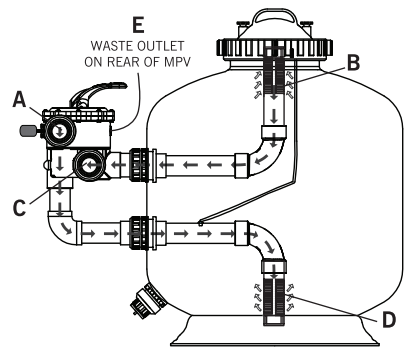

Figure 8.
**1) FILTER:** Incoming water from the pond enters the MPV at point (A) (see figure 8). The water enters the vessel at point (D) then flows upwards through the K1 Micro filter media to the top exit bar (B). The filtered water is returned through the multi-port valve at point (C) and back into the pond.
**2) BACKWASH:** This is the position the multi-port valve should be in for cleaning the K1 Micro filter media. With the valve in this position, water flow is reversed through the filter bed so that the water flow is directed to the top of the unit (B) and exits the unit at (D) and goes out to the waste line (E).
**3) RINSE:** This is the position the multi-port valve should be in for agitating the K1 Micro filter media. With the valve in this position, air (supplied by the air blower) is used to agitate the filter media. Later on in the cleaning process, water is used to rinse the K1 Micro and exit to waste (E).
**4) WASTE:** This is the position the multi-port valve should be in to allow water to by-pass the filter bed and drain to waste (E). With the multi-port valve in this position, the water flow is directed straight to waste by-passing the unit. This function can be used to lower the water level or for vacuuming your pond without soiling the filter.